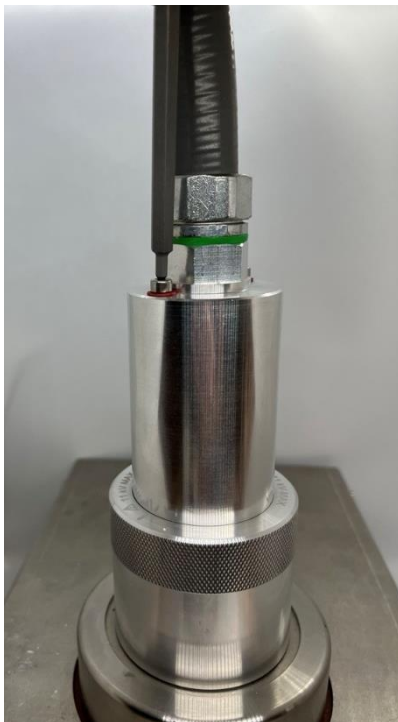

Figure 11-52: Reattached sensor electronics cover with coax conduit fitted
13. Reattach the sensor electronics' cover and tighten both screws fully ensuring that the sealing washers are in place. Torque the M4 screws to 1.4 Nm as shown in Figure 11-52.